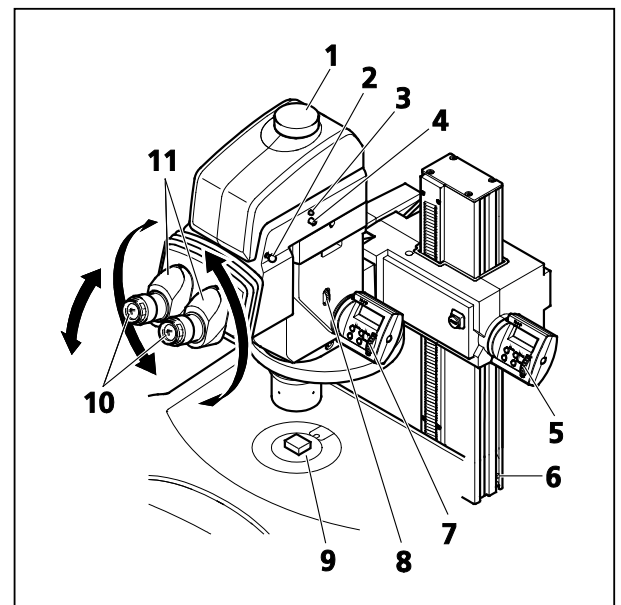
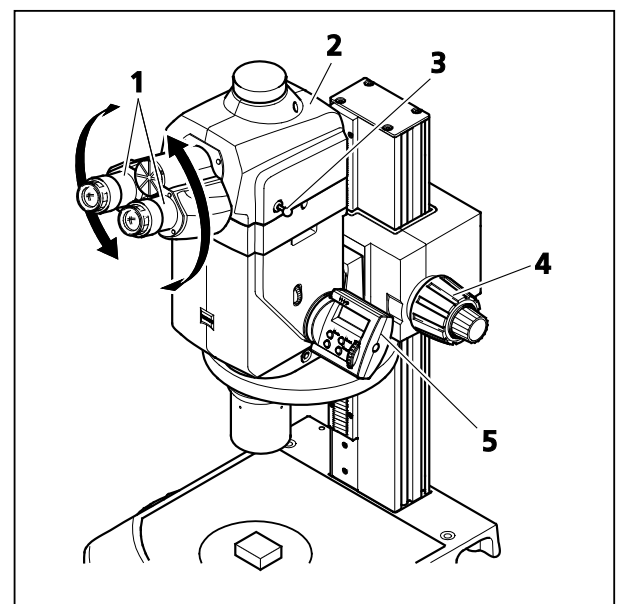

Fig. 30 Microscope, motorized focus
Fig. 31 Microscope, manual focus
Prior to operating the motorized focusing drive for the first time ensure that the lower mechanical end stop (Fig. 30/6) has been adjusted (see Section 4.6, page 44).
1. Place a specimen in the center of the round insert plate (Fig. 30/9). Switch on the illumination.
2. Ensure that the aperture diaphragm (Fig. 30/8) is completely open. To do this, briefly press or turn the knurled screw.
3. Adjust the diopter-setting ring on focusing eyepieces (Fig. 30/10) if known, otherwise set it to "0".
4. Adjust the interpupillary distance by turning the eyepiece sockets (Fig. 30/11) and Fig. 31/1), i.e. when looking into the eyepieces with both eyes only **one** unclipped circle of light (object field) should be visible.
5. Set the zoom (Fig. 30/7 or Fig. 31/5) first of all to the smallest level of magnification.
6. Focus on a prominent detail in the center of the specimen (Fig. 30/5 or Fig. 31/4).
7. Set the maximum zoom value (Fig. 30/7 or Fig. 31/5). Due to the magnification it is likely that the prominent detail is out of focus again and off-center.
8. Search for the detail by moving the specimen and precisely re-focus on it (Fig. 30/5 or Fig. 31/4).
If desired, connect a camera of your choice to the camera port (Fig. 30/1) of the ergo phototube or binocular phototube (Fig. 31/2). To switch over the light path, briefly push the control knob (Fig. 30/4) of the ergo phototube or pull out the push-pull rod (Fig. 31/3) of the phototube. The right light path is reflected 100% to the camera. On the ergo phototube this will be indicated by the blue control lamp (Fig. 30/3) lighting up.
A stereo effect in the eyepiece image can be obtained by pulling out the shutter slider (Fig. 30/2) on the ergo phototube.